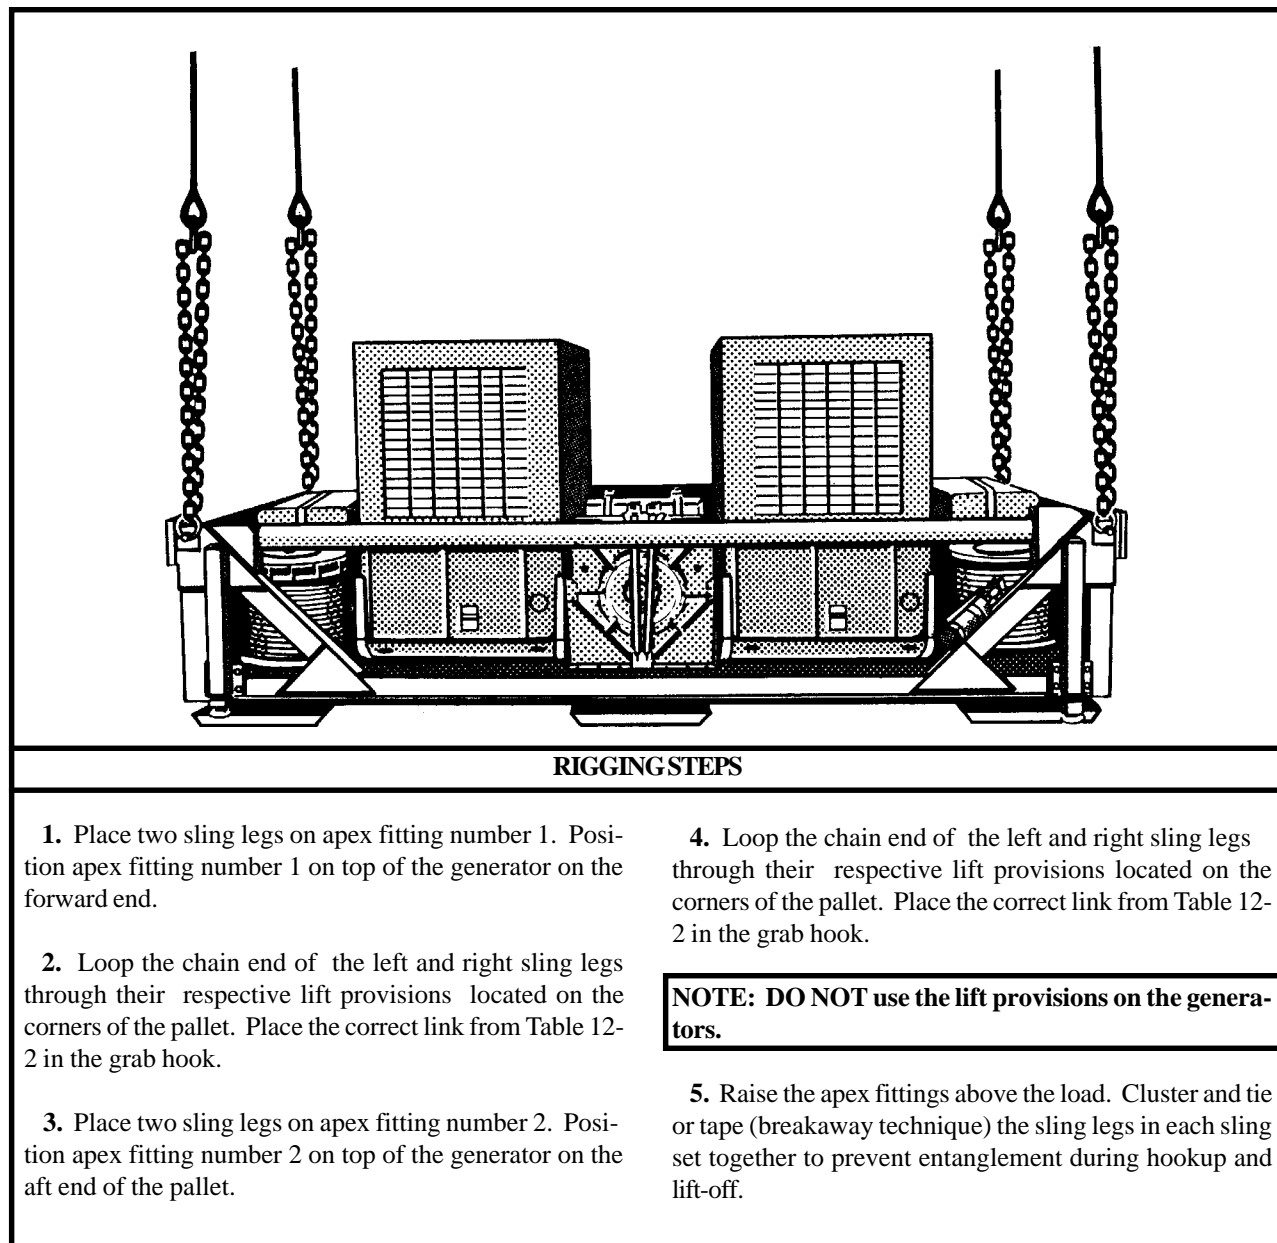

Figure 12-2. NATO Air Base SATCOM (NABS) Power Pallet, AN/TSC-85B(V)2
(2) **Rigging.** Rig the load according to the steps in Figure 12-2.